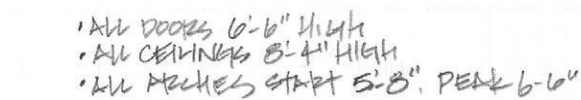

Figure 17.14 Use general notes to eliminate repetitive and ambiguous notes.
- ☑ Use general notes to minimize repetitive notes on the field notes drawing (Figure 17.14). Call out general ceiling heights, door heights, finishes, etc.